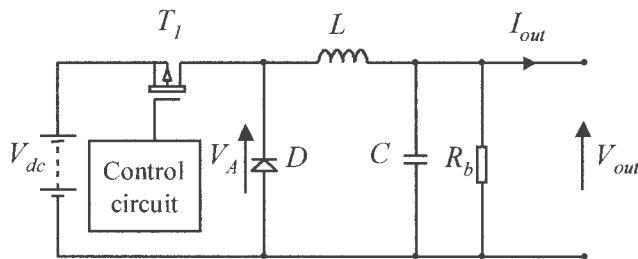

Figure 4
4. The circuit presented in Figure 4 is called a “buck converter” and it is used to “step-down” the DC input voltage (V_{dc}) to a lower level (V_{out}) suitable for a particular application. Since transistor T_1 is turned-on at a fixed interval (i.e. turned-on with constant switching frequency), the output voltage V_{out} is controlled by varying the on-time (conduction time) of T_1 .